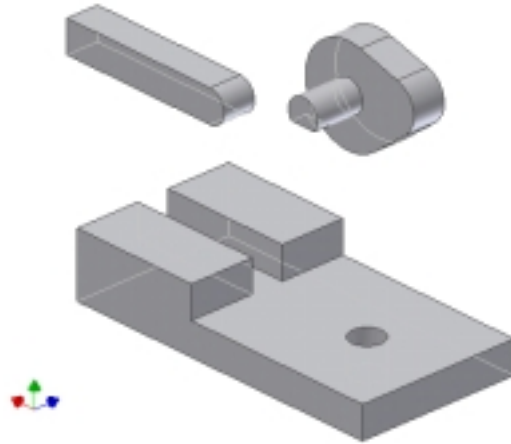

Figure 3-16
2. Place the components (base, cam, and follower) in the assembly one by one. Then rotate the display. (See Figure 3-16.)